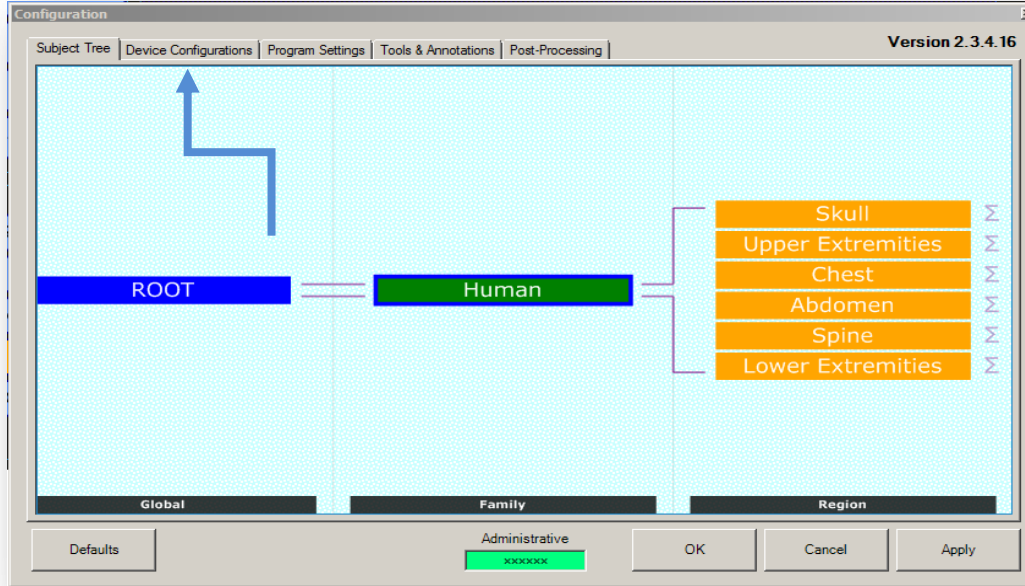

Figure 6
8. In the configuration window select the *Device Configuration* tab. *Figure 6*